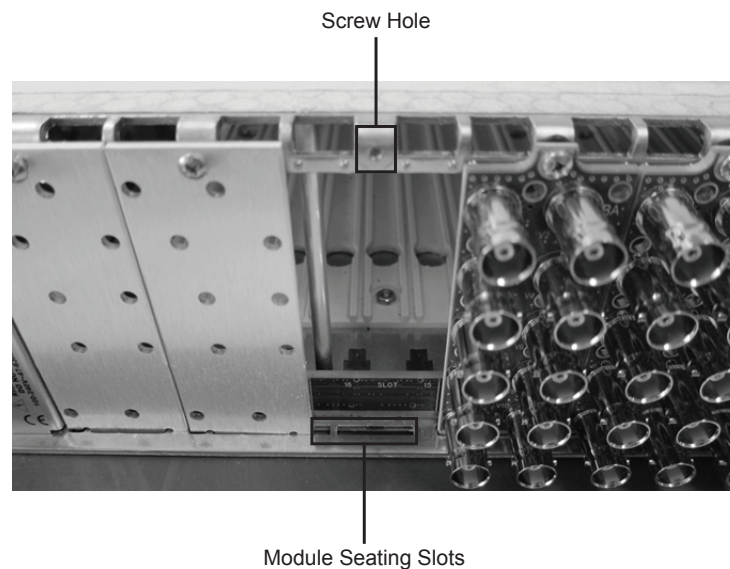

Figure 2.1 Rear Module Installation in an openGear Frame (Card not shown)
3. Install the bottom of the Rear Module in the **Module Seating Slot** at the base of the frame’s back plane. (**Figure 2.1**)